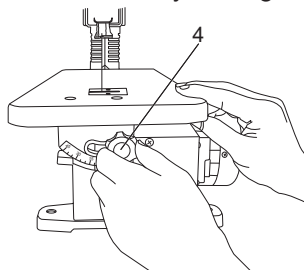

Fig. 4
- > Loosen the table bevel lock knob (4) and move the table until it is approximately perpendicular, or at a right angle to the blade. (Fig. 4)